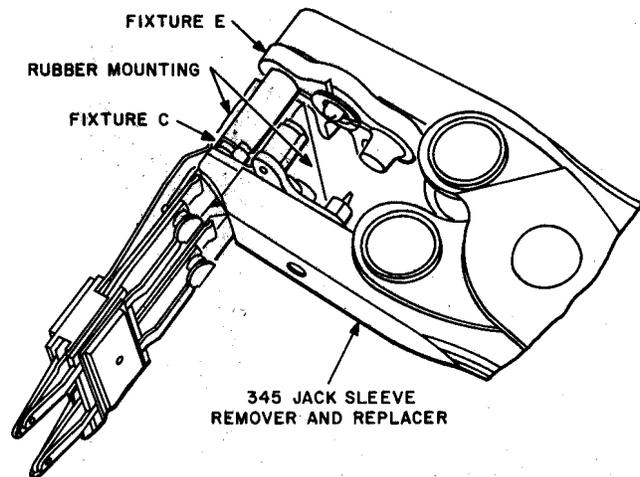

Fig. 12—Method of Forcing Sleeve Forward, Flush with Face of Rubber Mounting on 92-, 229-, and 292-Type Jacks
3.20 With fixture E of the 345 jack sleeve remover and replacer inserted in the face of the jack, and fixture C inserted in back of the sleeve, as shown in Fig. 12, force the sleeve forward by bringing the jaws together until the front of the sleeve is flush with the face of the rubber mounting.